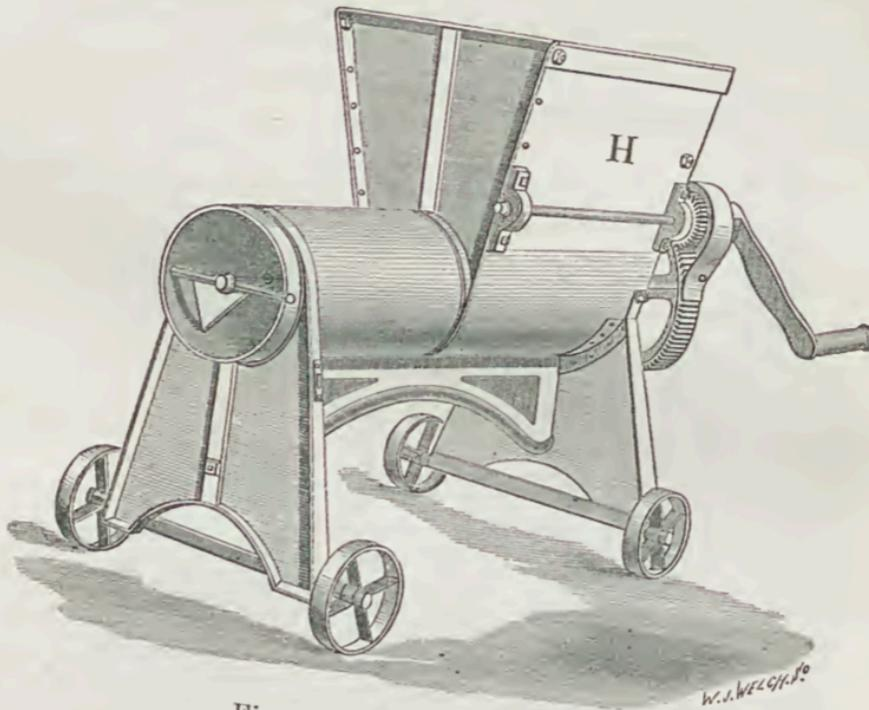

Fig. 106. *Hand Mortar-Mill.*
*Hand Mortar-Mill.*—For still smaller works hand mortar-mills may be used of the forms shown in Fig. 106.